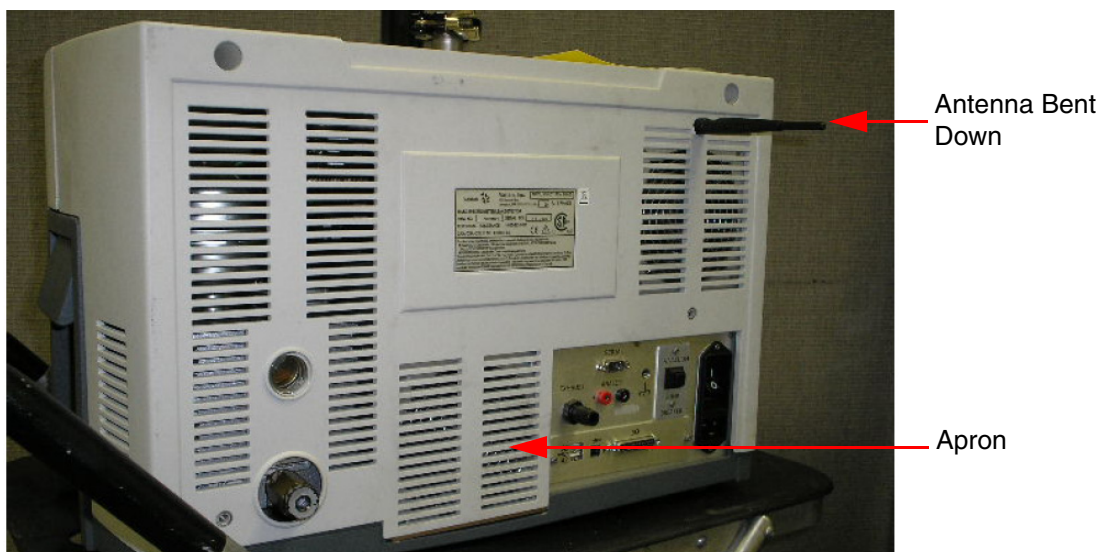

Figure 1-2 Antenna Bent Down
If your VS has a wireless remote, bend down the antenna as indicated in Figure 1-2 before removing the rear cover. The antenna has a flexible knuckle allowing it to lay flat.
2. Release the leak detector lower *apron* from the detector base by pressing down (toward the table) on the gray plastic bottom with one hand while pulling the rear cover white *apron* toward you with the other hand (Figure 1-2 on page 1-2). This step allows the rear cover to slip off easier.